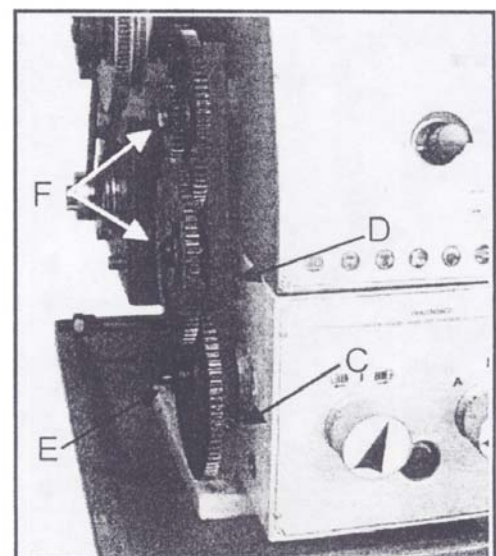

Fig. 9
15. Install the gear couples according to the thread and feed table (Fig.9) and screw the gearwheels onto the quadrant again.